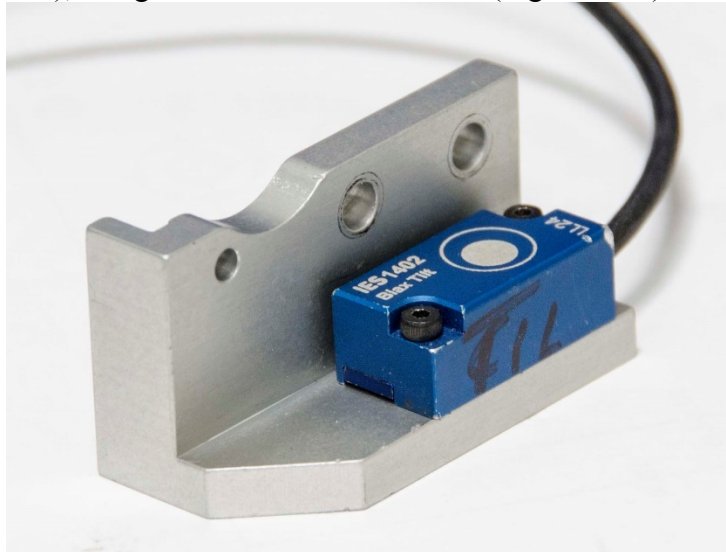

Figure 6-27. Install T12 tilt sensor to mount
6.2.2.20 Install the Dual Axis Tilt Sensor (SA572-S44) to the T12 Tilt Sensor Mount (472-3781), using two M2 x 0.4 x 10 SHCS (Figure 6-27).